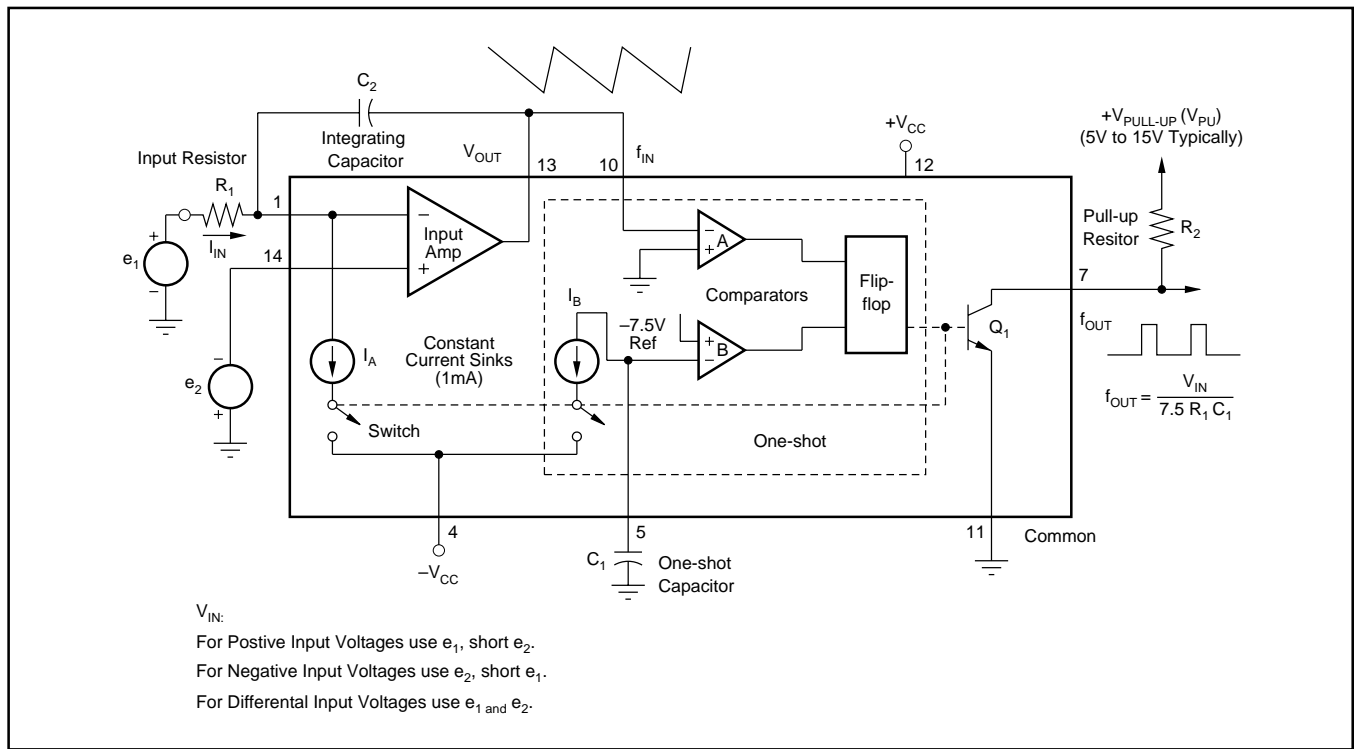
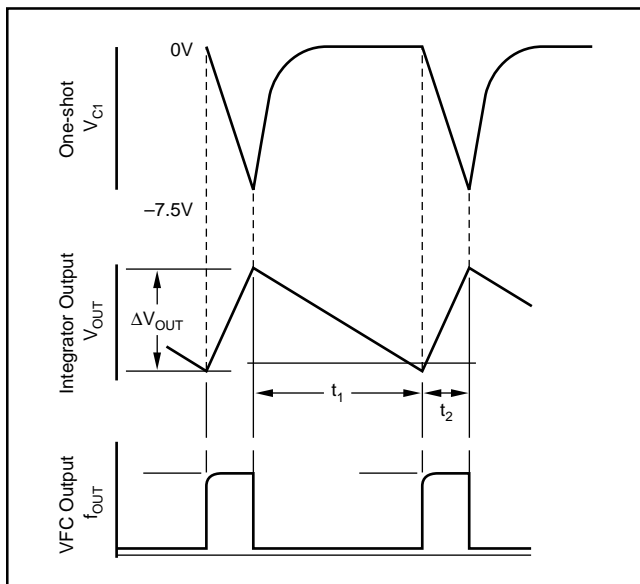

FIGURE 4. Functional Block Diagram of the VFC320.
FIGURE 5. Integrator and VFC Output Timing.
| V/F CONVERTER $f_{\text{OUT}} = V_{\text{IN}}/7.5 R_1 C_1$, Figure 4 | | | | | | | | |
| Voltage Range ⁽¹⁾ | Fig. 4 with $e_2 = 0$ Fig. 4 with $e_1 = 0$ | >0 <0 | | Note 2 -10 | | | | V V |
| Linearity Error ⁽¹⁾ (4) (5) | Fig. 4 with $e_2 = 0$ ⁽⁶⁾ $0.01\text{Hz} \leq f_{\text{OUT}} \leq 10\text{kHz}$ $0.1\text{Hz} \leq f_{\text{OUT}} \leq 100\text{kHz}$ $1\text{Hz} \leq f_{\text{OUT}} \leq 1\text{MHz}$ | | | ± 0.004 ± 0.008 ± 0.1 | ± 0.005 ± 0.030 | ± 0.0015 * * | ± 0.002 * * | % FSR % FSR % FSR |
| Leakage Current, Logic "1" | External Pull-up Resistor Required (See Figure 4) | | 0.01 | 1.0 | | * | * | μA |
The VFC320 monolithic voltage-to-frequency converter provides a digital pulse train output whose repetition rate is directly proportional to the analog input voltage. The circuit shown in Figure 4 is composed of an input amplifier, two comparators and a flip-flop (forming an on-shot), two switched current sinks, and an open collector output transistor stage. Essentially the input amplifier acts as an integrator that produces a two-part ramp. The first part is a function of the input voltage, and the second part is dependent on the input voltage and current sink. When a positive input voltage is applied at V_{IN} , a current will flow through the input resistor, causing the voltage at V_{OUT} to ramp down toward zero, according to $dV/dt = V_{IN}/R_1C_1$. During this time the constant current sink is disabled by the switch. Note, this period is only dependent on V_{IN} and the integrating components.
The transfer function for the VFC320 is derived for the circuit shown in Figure 4. Detailed waveforms are shown in Figure 5.
In general, the design sequence consists of: (1) choosing f_{MAX} , (2) choosing the duty cycle at full scale ($D_{FS} = 0.25$ typically), (3) determining the input resistor, R_1 (Figure 4), (4) calculating the one-shot capacitor, C_1 , (5) selecting the integrator capacitor C_2 , and (6) selecting the output pull-up resistor, R_2 .